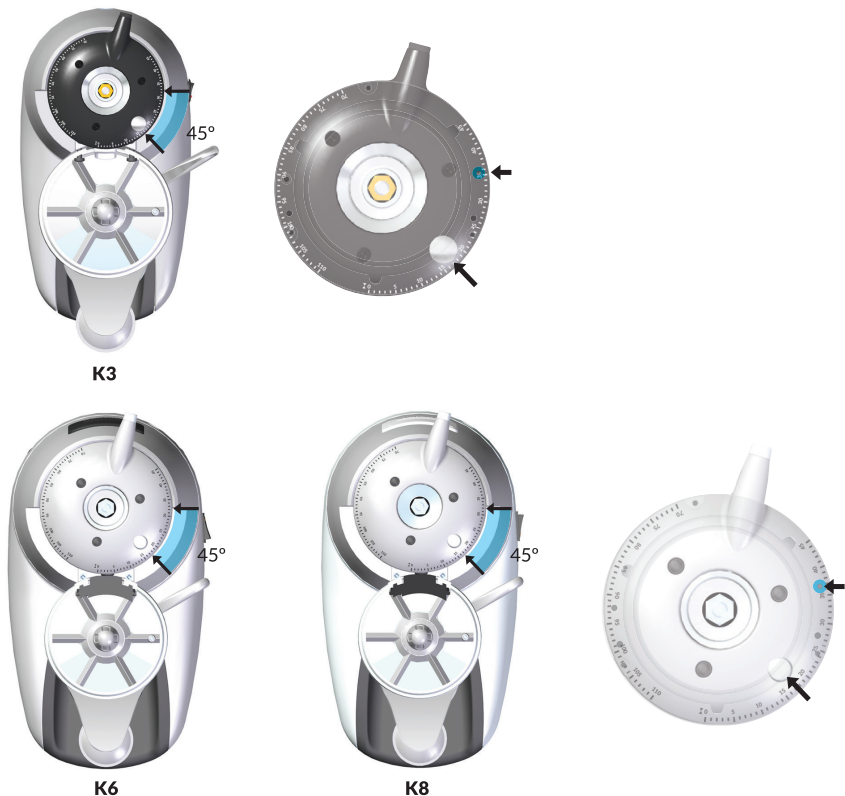

Fig. 13
Position the regulator collar (13) leaving about 45° between the grind point lock screw (7) and regulator limit stop (**Fig. 13**). In that position, tighten the regulator (13) on the upper burr carrier and with an *Allen* key A3 series for the **K3** (**Fig. 9**), or a *T20 Torx* screwdriver for the other models, as **Fig. 10**.